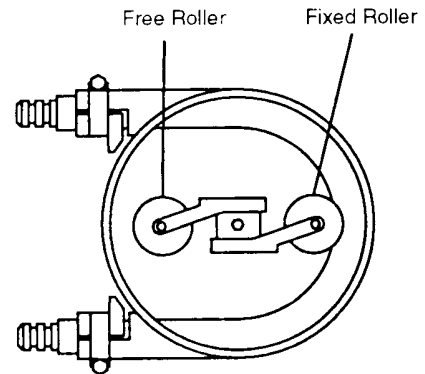

Fig. 7
5. Turn the rotor a half turn so that the fixed roller (opposite the one you freed in step 2) is riding on the middle of the hose. See Fig. 7.